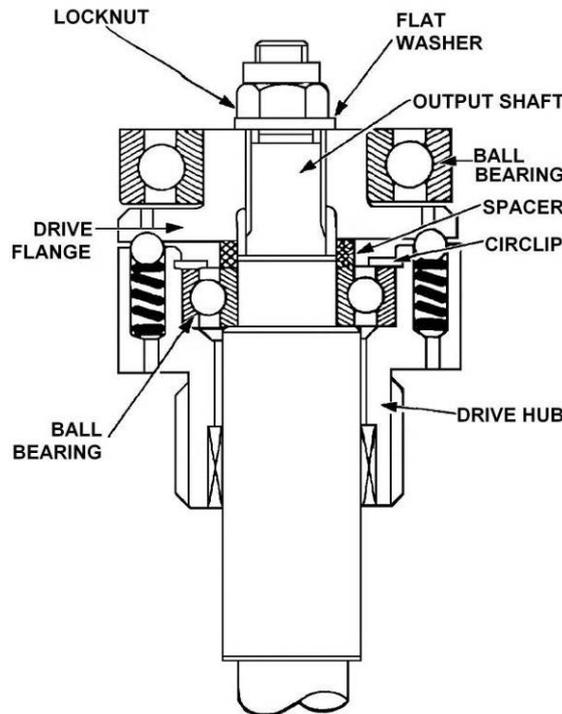

Figure 222 Installation of the Torque Limiter
- a. Support the drive hub and press in the ball bearing and needle roller bearing. Secure the bearing with the internal circlip (Figure 222).